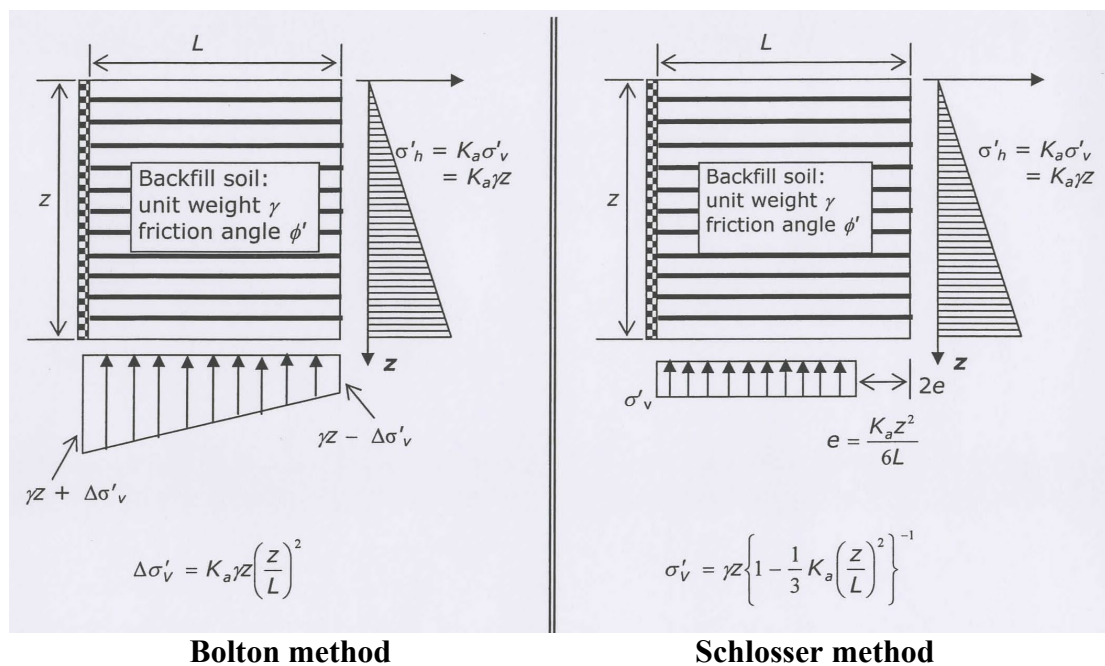

Figure 6
- The vertical stress in a horizontal plane in the reinforced soil wall can be approximated by two methods: (1) Bolton (1977) and (2) Schlosser (1978), which are shown in Figure 6.